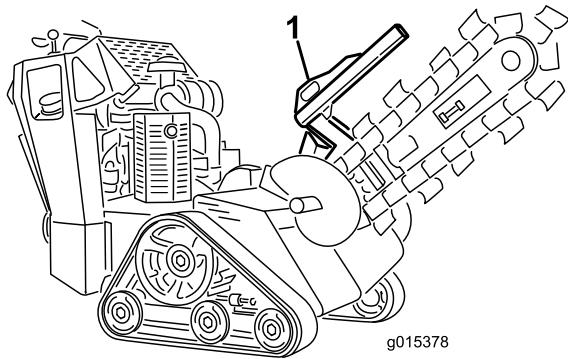
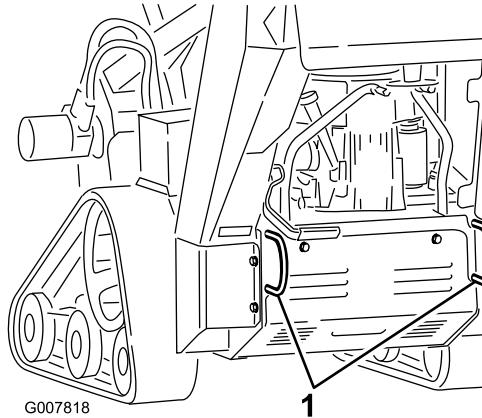

Figure 18
Figure 19
- Secure the machine to a trailer with chains or straps using the tie-down/lift loops at the front and rear of the machine (Figure 18 and Figure 19). Refer to your local ordinances for trailer and tie-down requirements.
You can lift the machine using the tie-down/lift loops as lift points (Figure 18 and Figure 19).